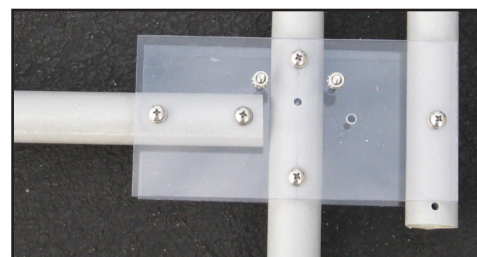

Fig. 58
- Swing one of the Elements till it is perpendicular to the Boom End Assembly, align the hole in the Element with the holes in the Element Mounting Plates and re-insert one (1) of the fastners previously removed. Do not tighten. See Fig. 58.